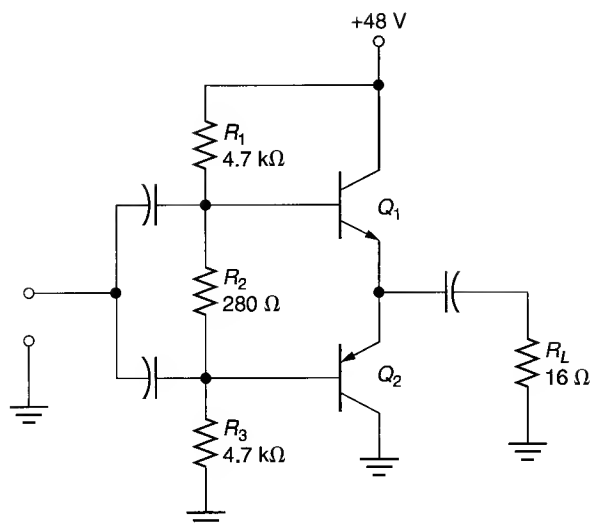

FIGURE 11.54
27. Calculate the value of P_S for the amplifier in Figure 11.54.
29. Calculate the value of $P_{L(\max)}$ for the amplifier in Figure 11.54.
31. Calculate the maximum efficiency for the amplifier in Figure 11.54.